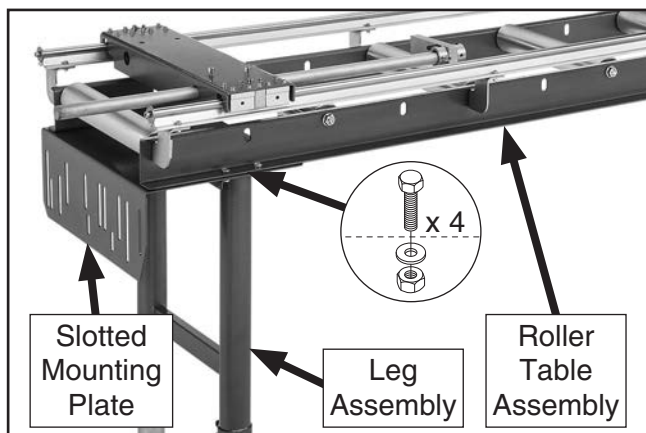

Figure 11. Installing T28378 slotted mounting plate.
- While an assistant holds end of roller table, remove (4) M8-1.25 x 16 hex bolts, (4) M8-1.25 flange nuts, and (4) 8mm flat washers securing leg assembly to roller table assembly (see **Figure 11**).